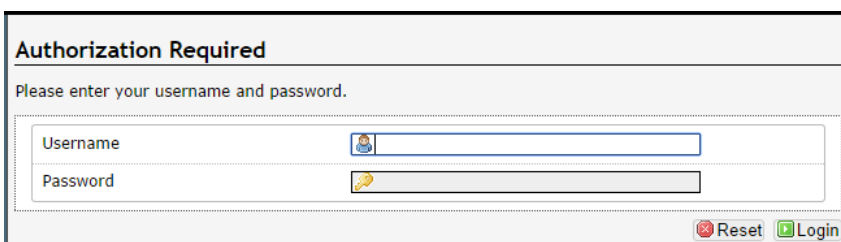

Figure 14: WEB GUI login page
2. *Webuser* has to login (see Table 11 and Figure 14).